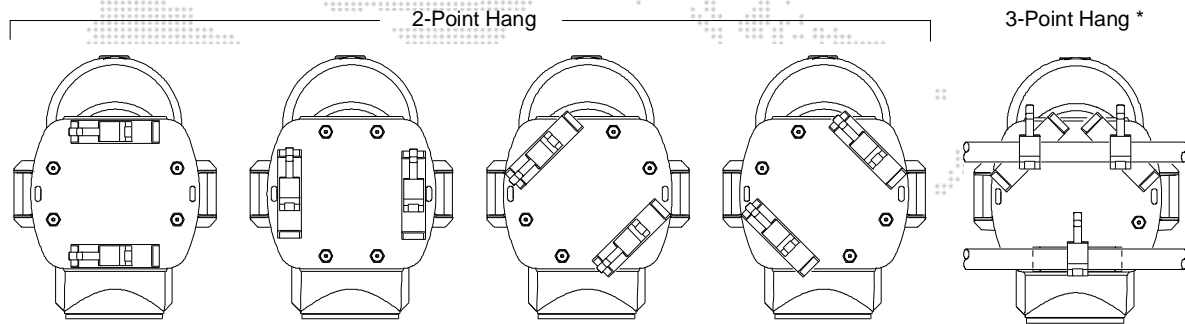

Figure 2-3: Hanging Bracket Orientations
- a. Choose orientation. Brackets may be attached in one of four positions. Refer to **Figure 2-3** for a diagram of the orientation options.